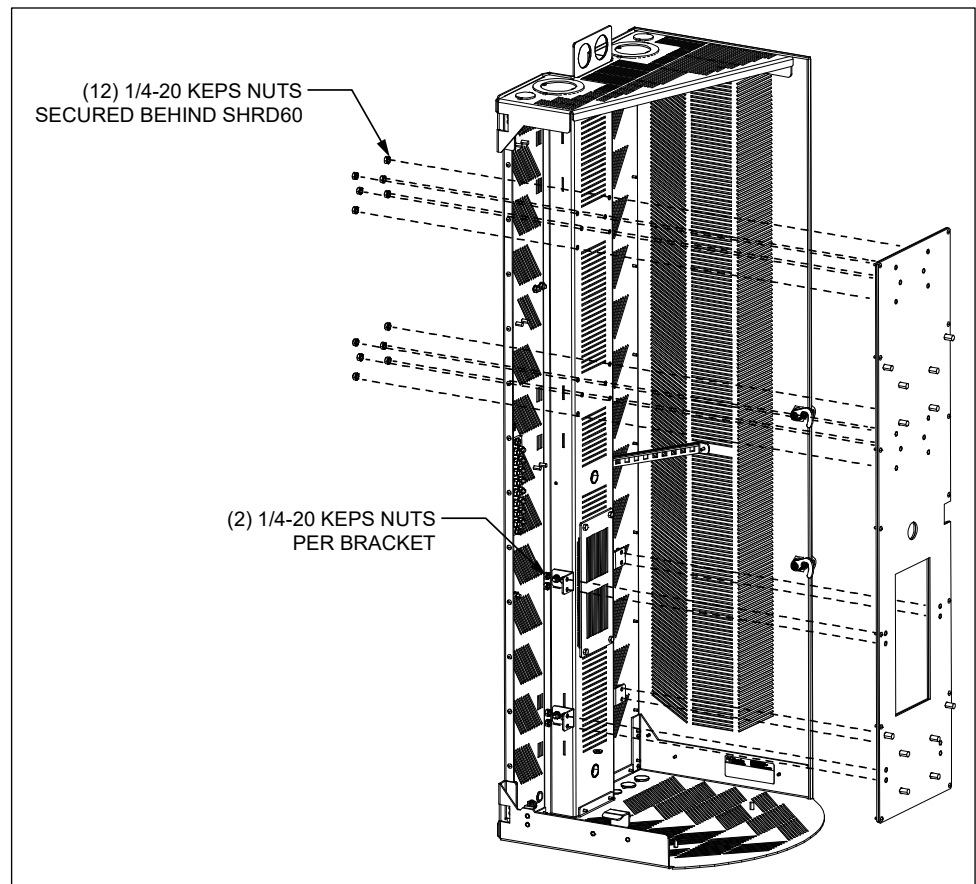

Figure 4 Mount Base Panel
2. The base panel has multiple threaded studs that align with holes on the SHRD60 central spine and on the four L-brackets. Mount the base panel so that the studs fit into these holes and secure in place using 1/4-20 Keps nuts (fourteen nuts in total, Figure 4).